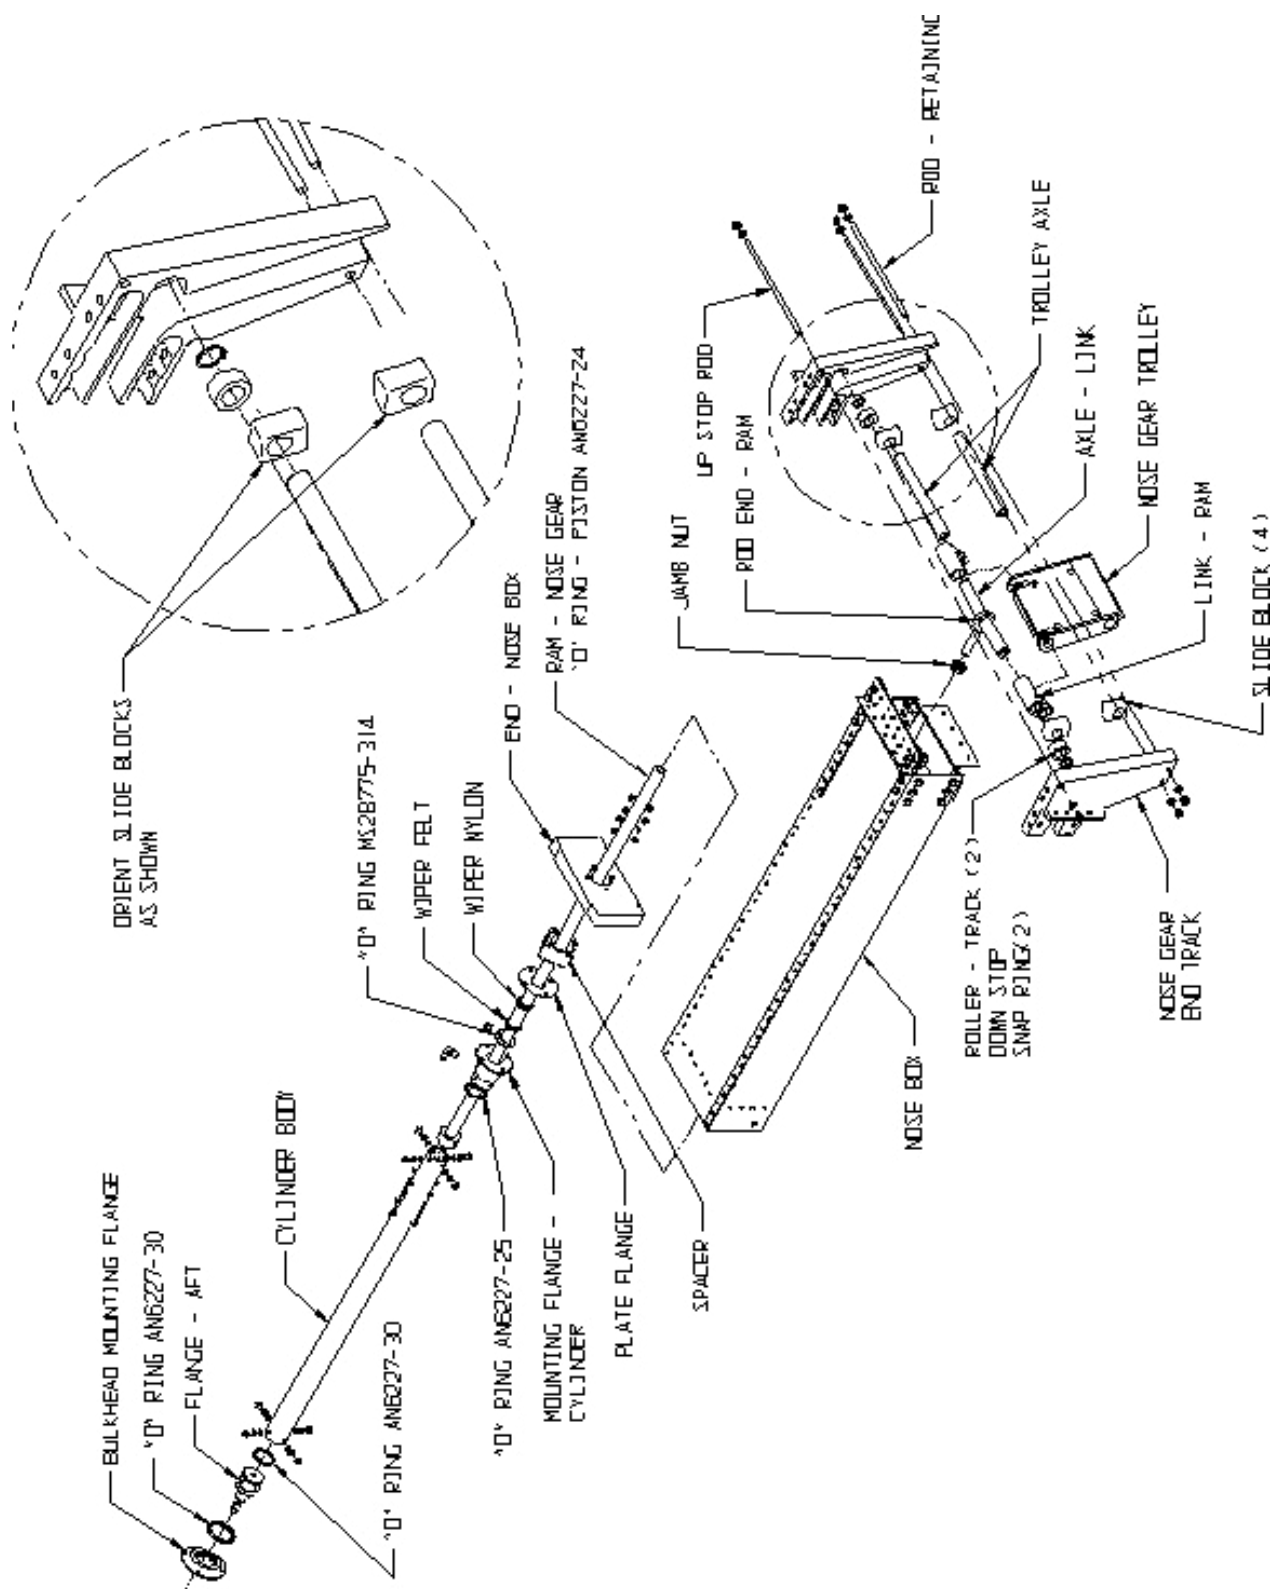

FIGURE 2.9 ASSEMBLY – NOSE GEAR BOX AND RETRACTION
The up stops nests in the up-stop bolt. See figure 2.9 and 2.10 for locations and assembly.
Gear must be in down position. Unbolt the spring from the trolley. Relieve the pressure in system, place gear selector handle in neutral position (lever between up and down), and remove rear hydraulic line. Remove (4) bolts on forward end of cylinder. Drain fluid. Pull aft to expose internal piston rod. Loosen jamb nut on forward side of cylinder ram at rod end. Turn piston from aft side of nose box out of rod end. Push on trolley assembly to unlock and remove the bottom thru-bolts. Slide out of nose box. Note: On installation, adjust piston so it bottoms out on aft flange at the same time as the bearings when nose gear is in locked position. Also note orientation of trolley blocks. The side with the most edge distance from hole is to go toward each other on inside of trolley. (See figure 2.9 for details).